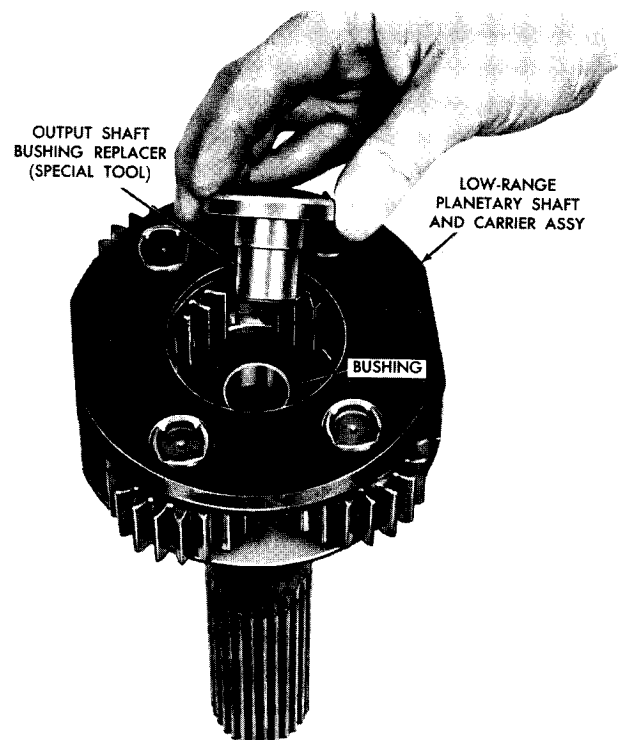

Fig. XII-1 Installing transmission output shaft bushing
(2) Low-range planetary carrier assembly. If transmission output shaft bushing 29 was removed, use press and output shaft bushing replacer (fig. XII-1) and install bushing 29. Press until bushing replacer bottoms.
(3) Reverse-range planetary carrier assembly